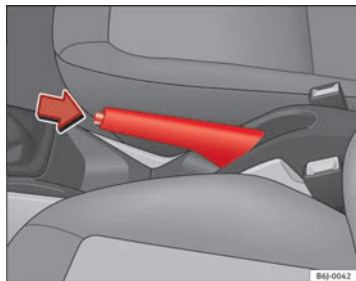

Fig. 119 Handbrake between the front seats
- Pull the handbrake lever up firmly ⇒ Fig. 119.
- Pull the lever up slightly and press the release knob in the direction of the arrow ⇒ Fig. 119 and guide the handbrake lever down fully ⇒ .